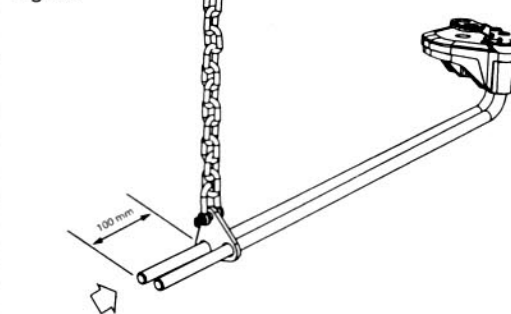

Fig. 5c
C. Locate link of chain on the hook on the snap up bracket. Slide the easy lift handle on the snap up bracket and raise handle. Ensure the chain lifter passes over the centre. While keeping pressure on the easy lift handle, slide the safety pin through the small hole to lock the chain lifter in position. Repeat steps 3 through to 6 for the other side of the trailer or caravan. Check the level of the vehicle and trailer by measuring heights at the positions in step 1 preparation the front and rear of the vehicle should settle to original readings within 15mm (Fig. 5c).